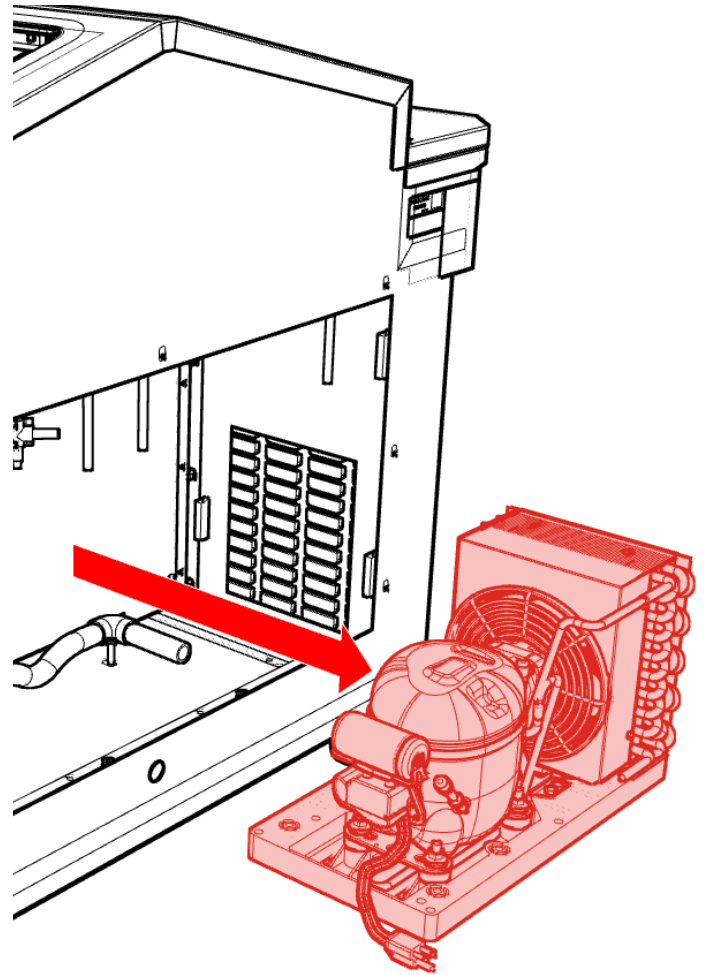

Fig. 34
5. With appropriate assistance, lift condenser out of condenser compartment (Fig. 34).